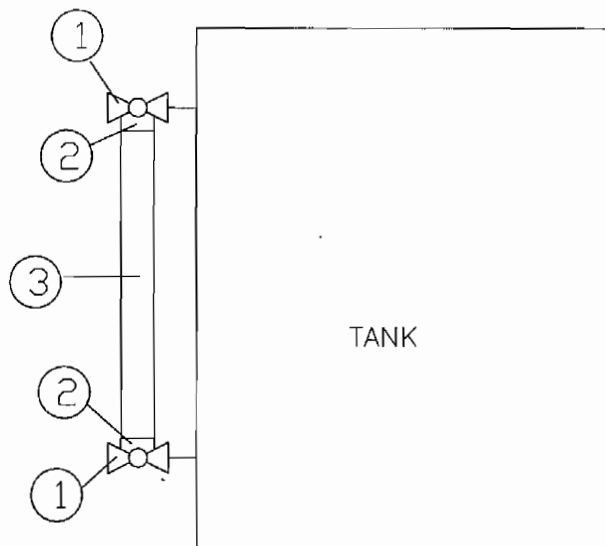

Figure 3-3. Tank Level Indicator (Sight Glass)
a. Replace (Refer to Figure 3-3)
- (1) Close valves (1) at top and bottom of the sight glass.
- (2) Open plug at base of sight glass to drain sight glass.
- (3) Unscrew sight glass retaining screws (2) at top and bottom of fuel tank sight glass.
- (4) Remove broken sight glass (3) and o-ring.
- (5) Install new sight glass (3) and o-ring.
- (6) Install sight glass retaining screws (2) at top and bottom of sight glass.
- (7) Close plug at base of sight glass.
- (8) Open valves (1) at top and bottom of sight glass.
- (9) Check for leakage.